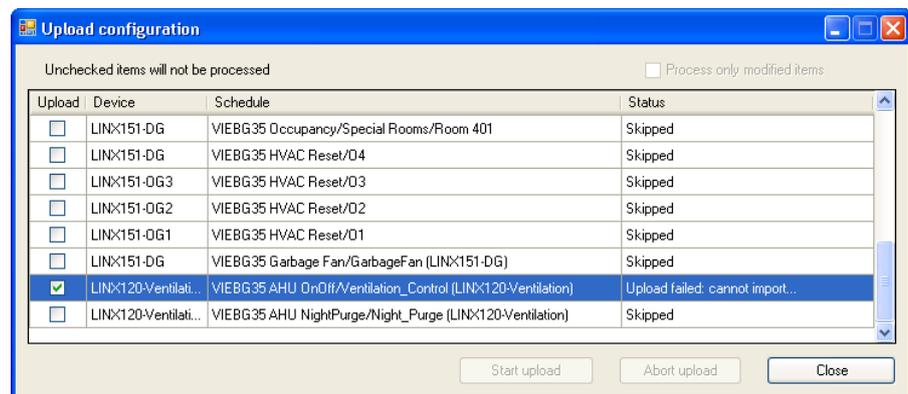

Figure 132: Master Schedule Upload Error
3. If the changes cannot be uploaded into the master schedule configuration, an error will be displayed as shown in Figure 132. In this example the preset values were changed using the Web UI. Because the presets affect all other schedulers under the same master schedule node, the modified presets will not be uploaded to the master schedule configuration.